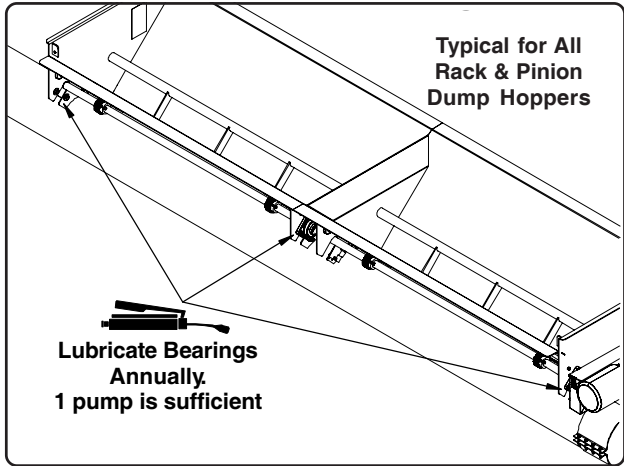
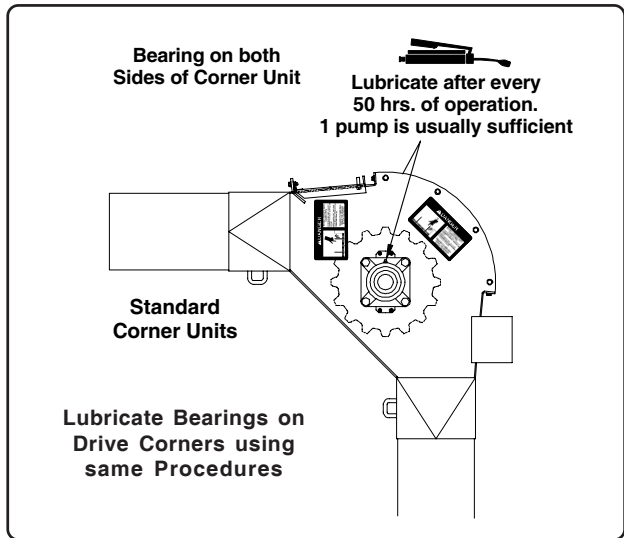
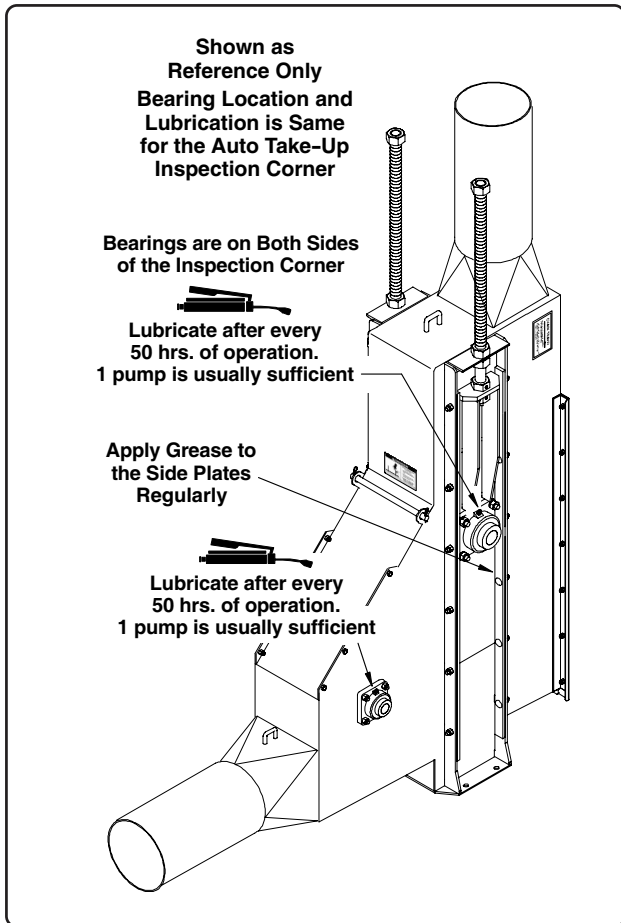
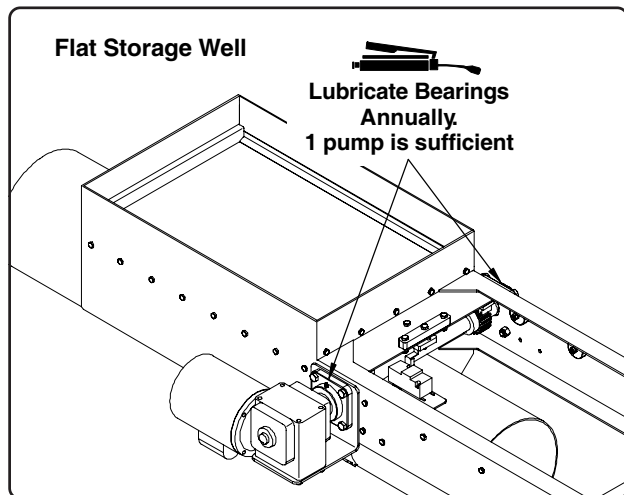

Fig. 7
Fig. 8
Fig. 6
Fig. 9
These bearings are self-aligning, sealed ball bearings which have been packed at the factory. They should be lubricated at approximately **fifty (50) hour intervals** with an SAE multipurpose type grease (See Fig. 6, Fig. 7, Fig. 8 & Fig. 9).